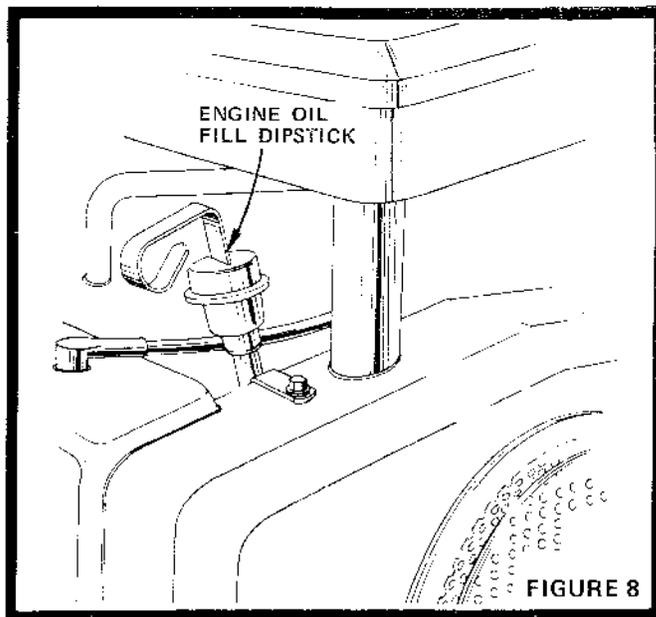

FIGURE 8
- Check Engine Oil Level with Tractor on level ground. Wipe dipstick (Fig. 8) clean, push it in tight for a few seconds, remove and read Oil Level. If necessary, add Oil until "FULL" mark is reached. In summer use S.A.E. 30 (SC, SD or SE) Oil. In winter (below 32°F.) use S.A.E. 10W30 (SC, SD or SE) or 10W40 (SC, SD or SE). In extreme cold (below 0°F.) use S.A.E. 5W20 (SC, SD or SE). NOTE: DO NOT OVERFILL.